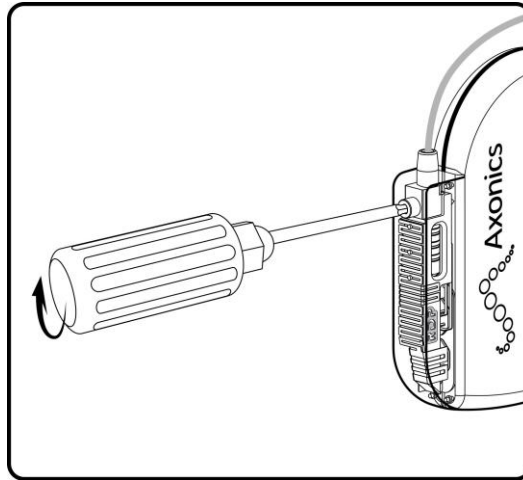

Figure 6: Secure the Lead by Tightening the Setscrew Clockwise onto the Retention Sleeve.
5. Fully insert the torque wrench into the hole of the Neurostimulator connector block. Tighten the setscrew by turning the torque wrench clockwise until it clicks (**Figure 6**).